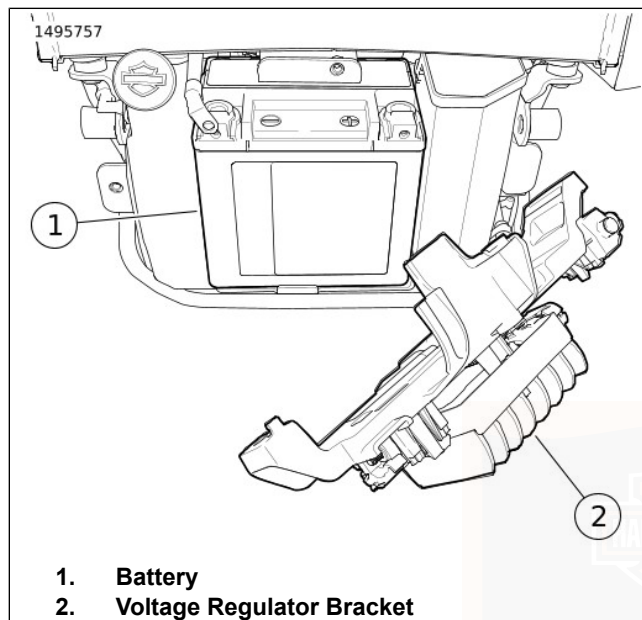

Figure 60. Voltage Regulator Bracket
6. Figure 60 Position voltage regulator bracket (2) out of way.
7. Remove battery (1).